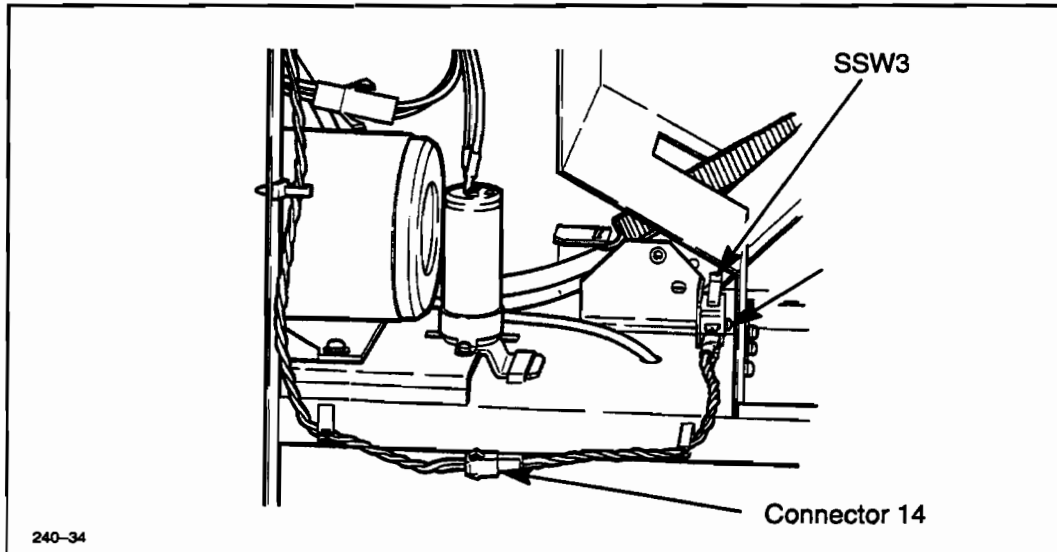

Figure 6-53. SSW3 Removal
8. Disconnect SSW3 at Connector 14, and release the wires from the cable clamp. See Figure 6-53.